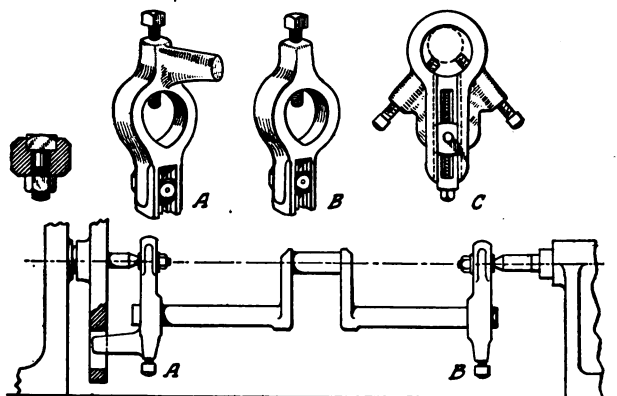

Fig. 75. Dogs with Adjustable Centers for Handling Crankshafts
**Adjustable Crankshaft Flanges.** In the small shop the general run of work varies so much that the principal difficulty lies in having flanges, dogs, or fixtures for handling the variety of crankshafts that come in. Diameters vary so much that a wide range of central holes is needed, because throws are all different. This gives a different center to center distance; then, too, there are still one- and two-throw, and other old forms of shafts in use, which come in occasionally for repairs. For these reasons, it is not wise for the small shop to go too far into special crankshaft fixtures; it should stick to simple dogs, with adjustable center distances, like the three shown in Fig. 75. While the shaft indicated is a single-cylinder form, dogs of this type can be used on other forms. This constitutes their biggest advantage. The variation in the three is self-explanatory to any machinist.